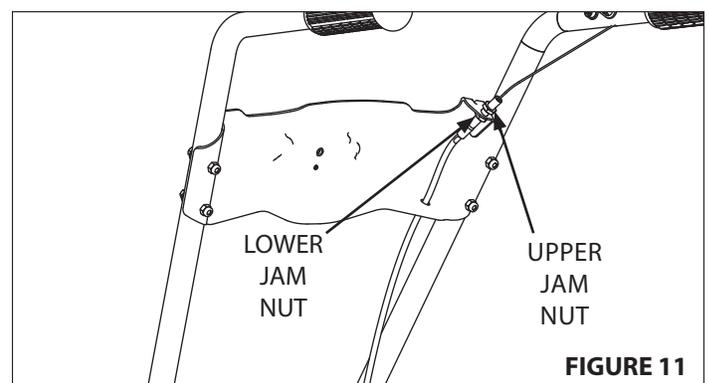

FIGURE 11
SEE FIGURE 11
5. To adjust, **SEE FIGURE 11** and Belt Tension Adjustment instructions.